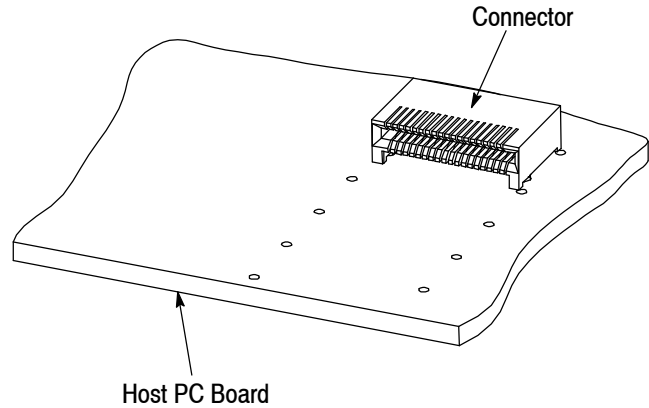

Figure 4
1. Install the connector onto the host pc board according to Application Specification 114-13217. Refer to Figure 4. Solder the connector to the pc board before seating the cage assembly.